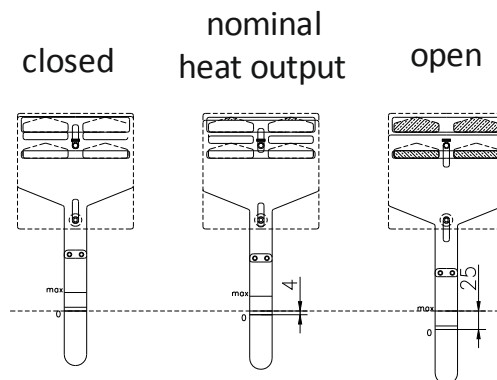

Fig.3
The combustion process is controlled with the supplied primary and secondary air by the regulator (Fig.1, Pos. 7). The combustion rate is increased by pulling the lever from position "0" to position "max" (Fig.3). This allows more air to be send to the combustion chamber. Primary air is used during ignition of the stove and for control of the burning intensity. Primary air is adjusted by the position of the air regulator (Fig.3). By pulling the air regulator (Fig.1, Pos. 11) the heat output of the stove is increased. Respectively when pushed in towards the stove the heat output decreases. Primary air is required for faster ignition of the fire. The primary air passes through the ash pan, the bottom grate and goes into the firebox. The ashtray should not be left fully filled. If full, it will prevent the primary air to get in the combustion chamber. It is necessary to clean the ash pan regularly. **The ashtray is cleaned only when it is cold.**
Secondary air is used for preventing the accumulation of dust on the glass. The air is channeled above deflector at the top part of the fire door. The secondary air supply is increased when the air regulator is pulled out (Fig.3).
- After the wood is burning well, the preferred heat output is achieved by regulating the combustion air (fig.3).